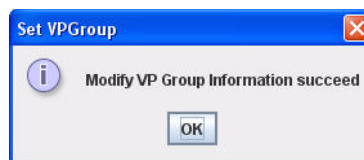

**Figure 4-3 Set VPGroup Message Box**
4. Enter the system password and click **OK**. The Set VPGroup message box opens, as shown in Figure 4-3.